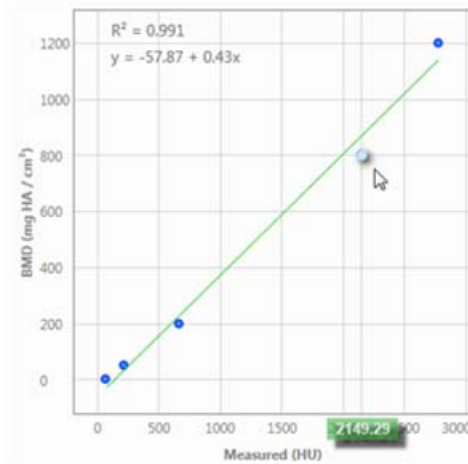

Figure 55. Overlay on the Plot
- To view the measured values computed in this step, move your mouse cursor over the points in the plot. An overlay on the plot displays with the values of that point. See Figure 55.